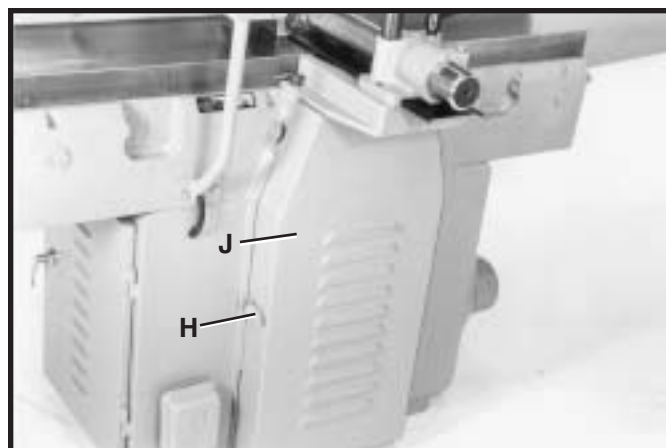
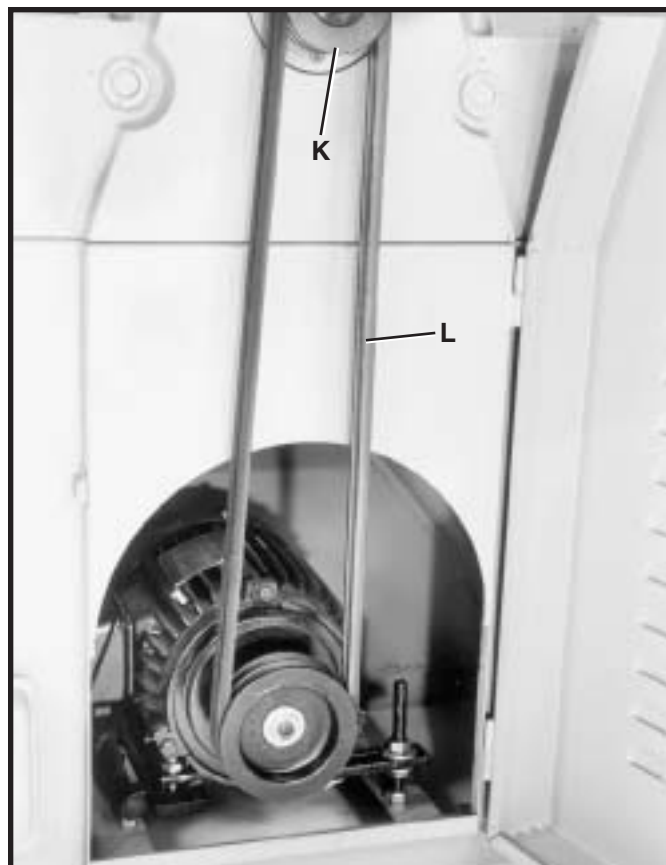

Fig. 46
Fig. 47
7. **IMPORTANT:** For ease in rotating the cutterhead during the knife setting operation, pull outward on latch (H) Fig. 46, and open hinged access door (J). This provides access to the cutterhead pulley (K) Fig. 47, and belt (L) allowing you to rotate the cutterhead.